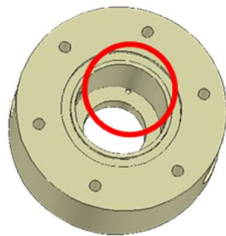
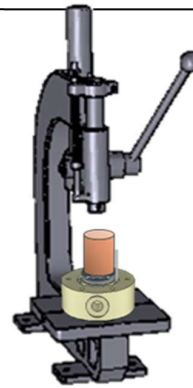
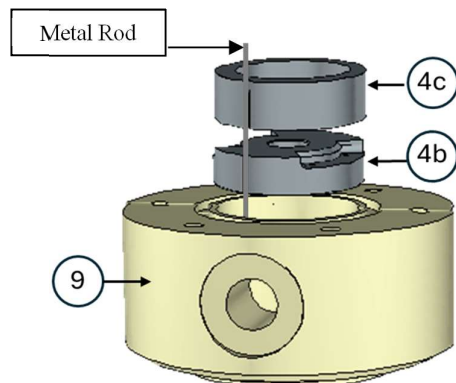

Figure 8
Figure 9
Figure 10
- 1- Identify, in the pump body, the hole shown in Figure 8, which will be the housing of the plug (15) but which will first be used to insert a metal rod that will act as a guide for the housing of the subsequent components. Then use a hand press and a sleeve suitable for mounting with slight interference of the flanges (Fig. 9)
- 2- Insert a metal rod into the hole identified in Figure 8, on the bottom of the pump casing, to act as a guide for inserting the graphite bushings (4b)(4c) (Figure 10).